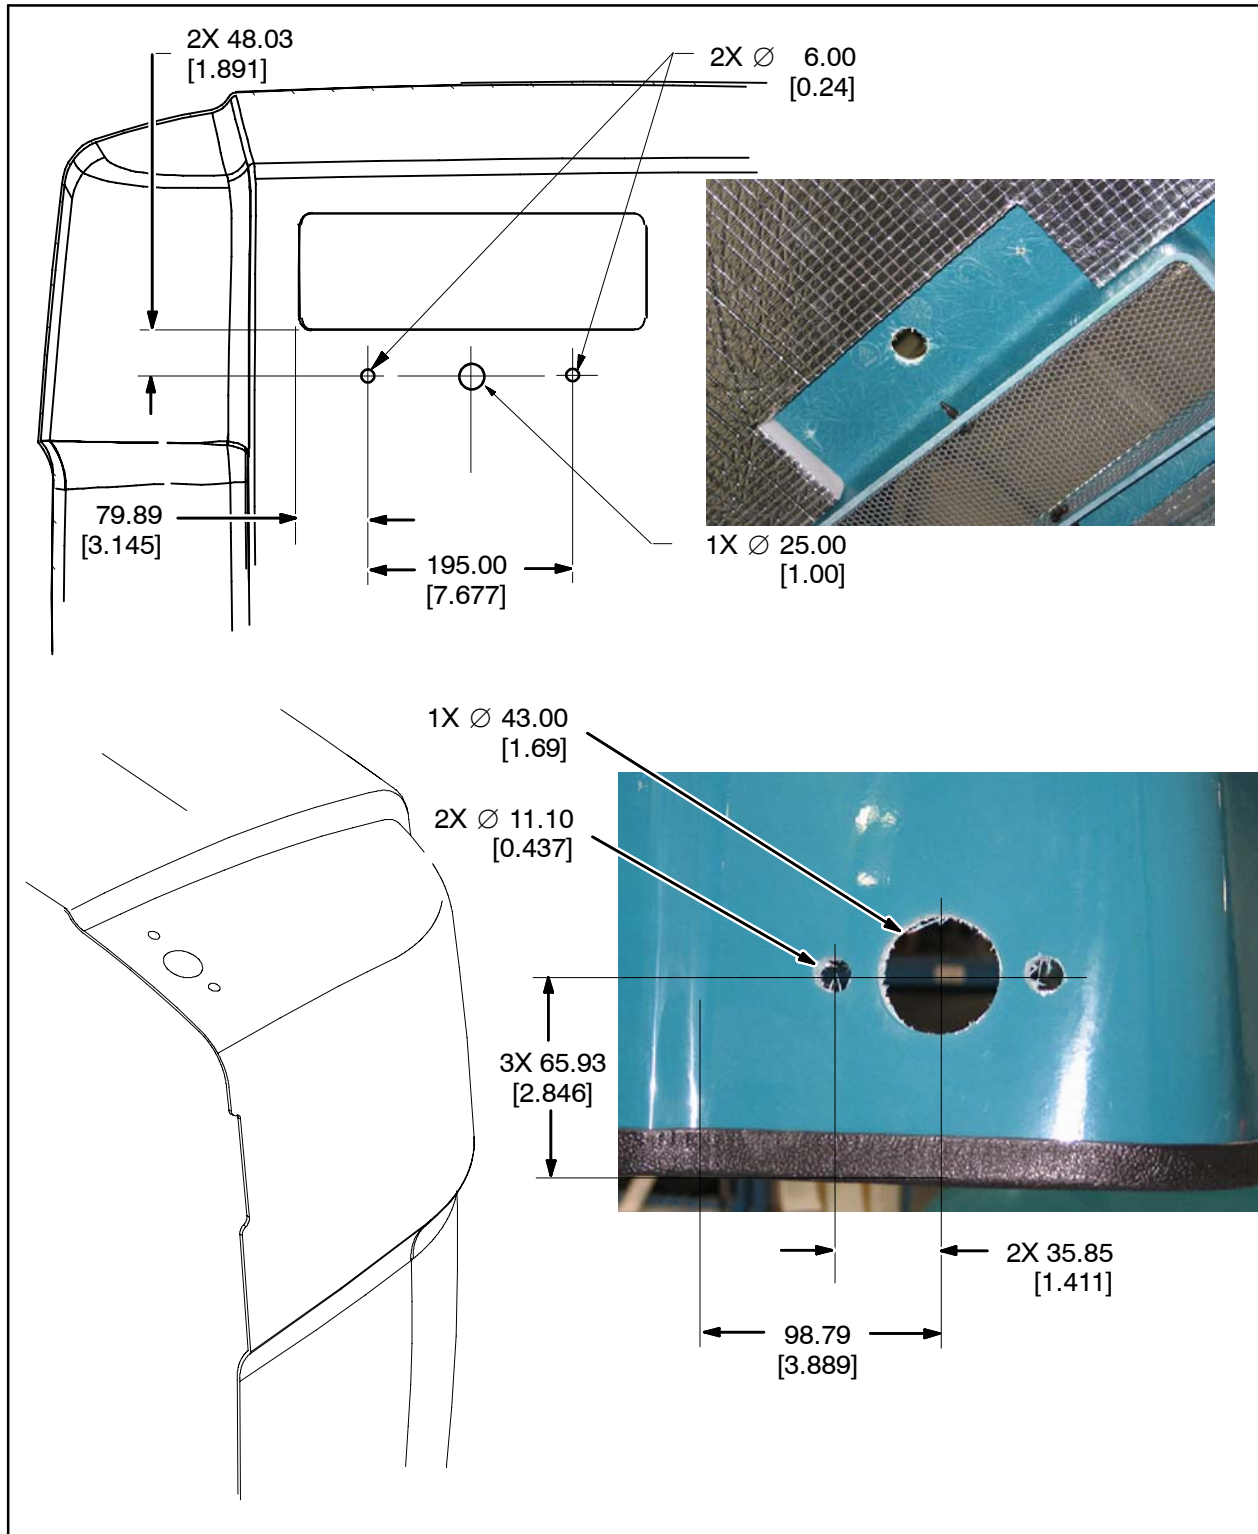

FIG. 1
1. Drill three appropriately sized holes for the white light (2) into the rear engine cover. Refer to Fig. 1 for sizes and locations.
2. Drill three appropriately sized holes for the light bracket (17) into the rear engine cover. Refer to Fig. 1 for sizes and locations.